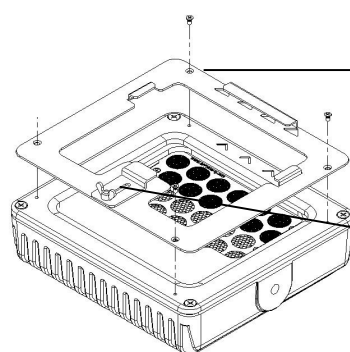

Figure 4
1. Position the plate to match holes. (Fig. 4)